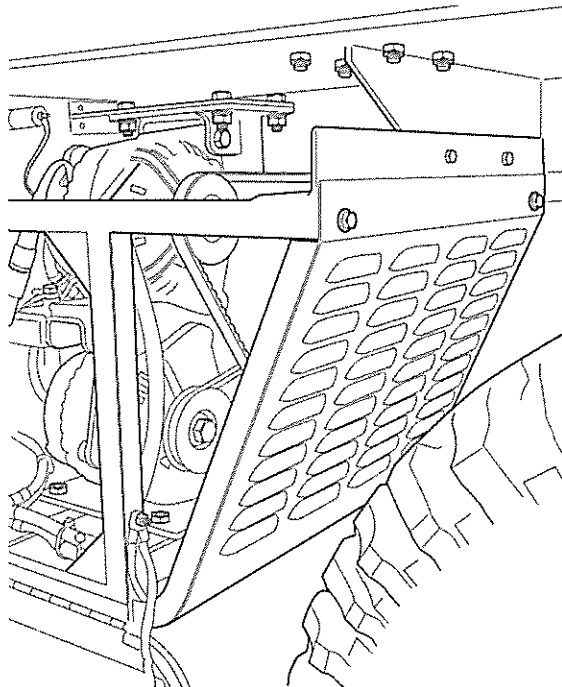

Fig 2 Hydraulic module access - rear
9.3 Remove and retain the bolts securing rear end cover of the hydraulic module and remove the cover (see Fig 2).
11.2 Remove and retain the bolts securing rear end cover of the hydraulic module and remove the cover (see Fig 2).